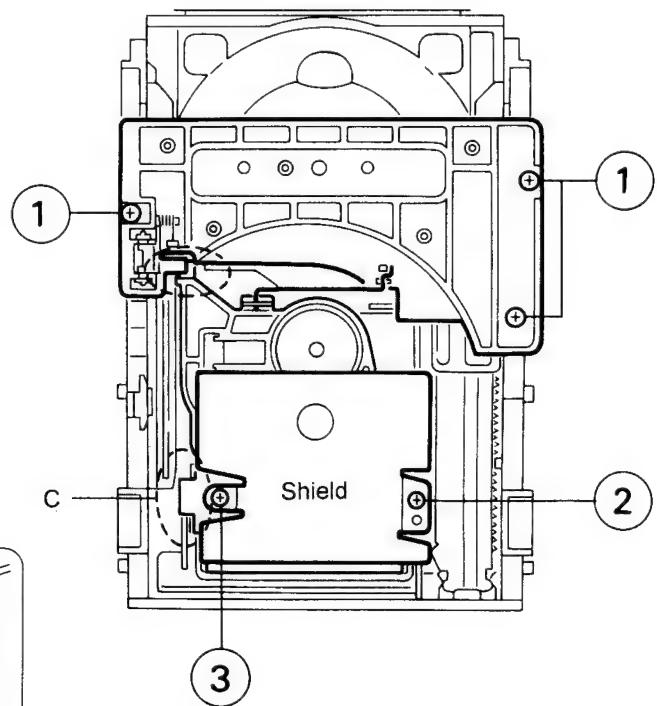

Fig. 5-26
6. Remove the two screws (2 and 3) retaining both of the shield and clamper assembly (See Fig. 5-26).
7. Remove the shield from the section (C) retaining the clamper assembly (See Fig. 5-26).
8. From the left side face of the chassis assembly, remove the one screw (4) retaining both of the return spring and lock lever.